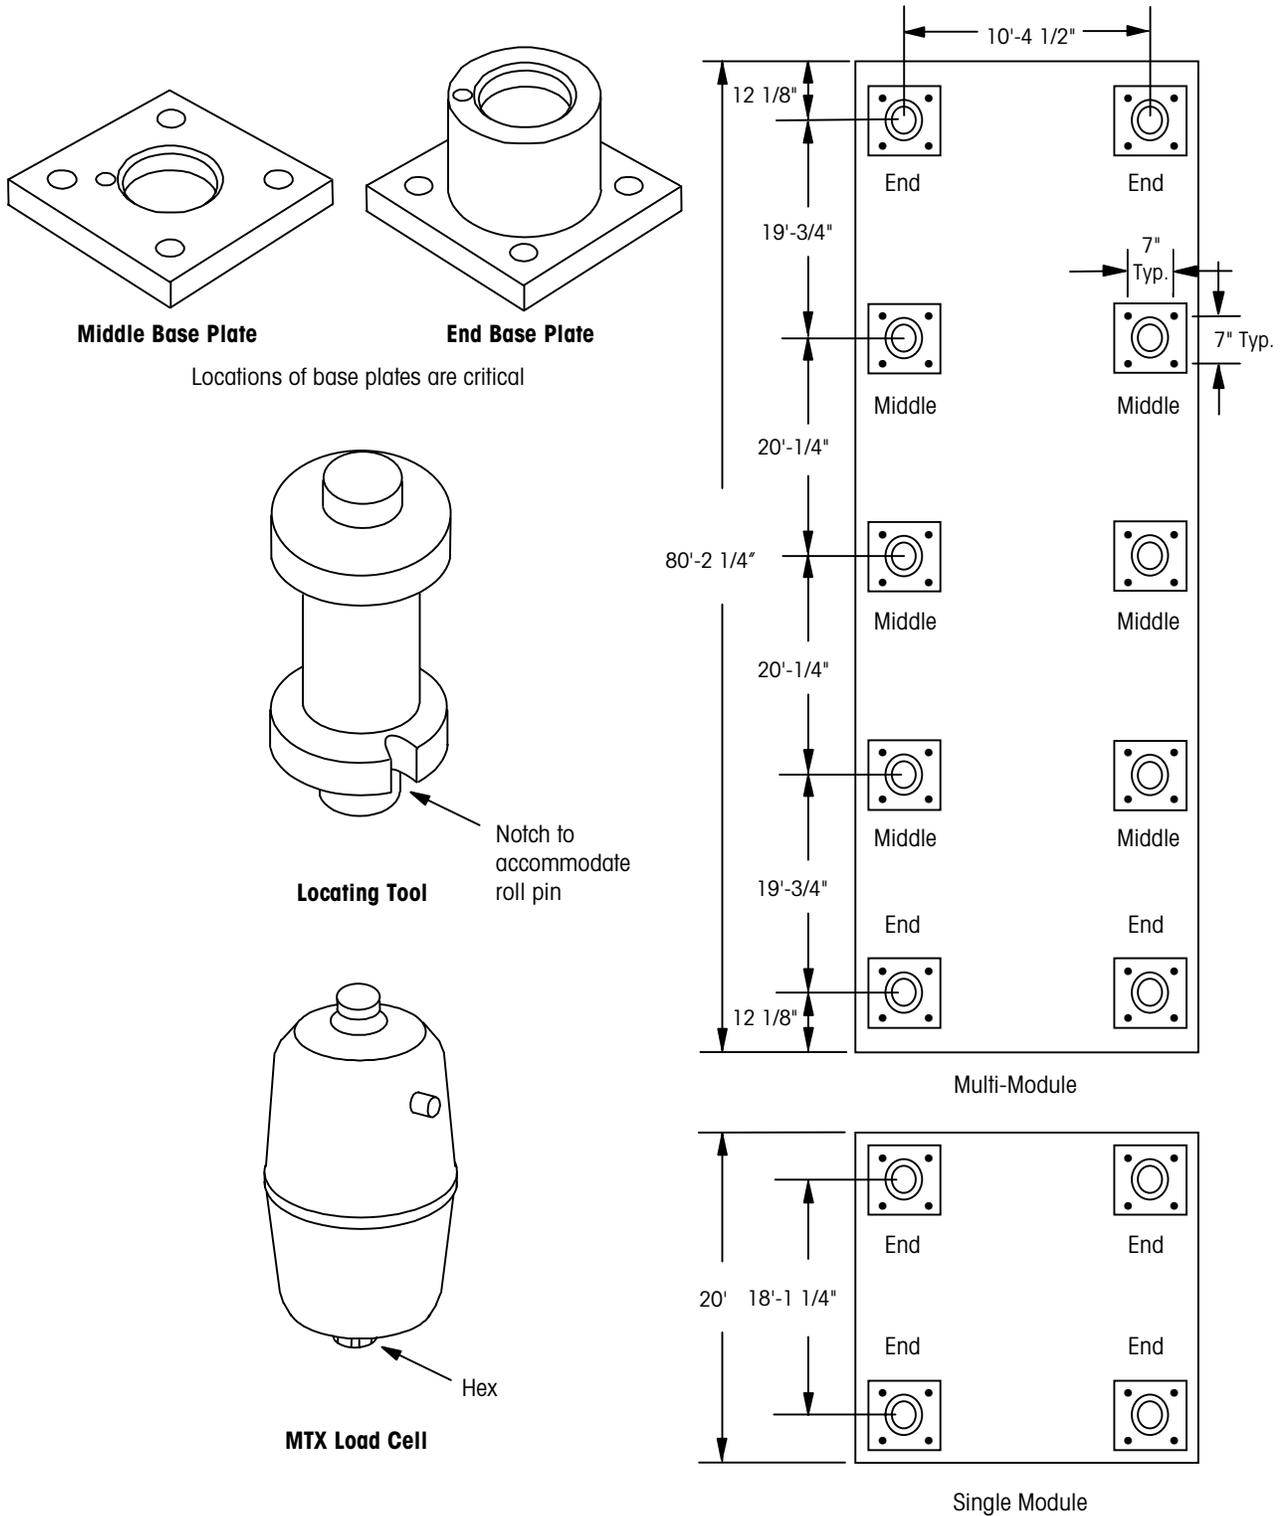

Figure 5-1: Base Plate Locations
2. Position the base plates on the foundation. Figure 5-1 shows the base plate positions for 20'x11'10" modules in single and multiple configurations. For the actual dimensions of your scale, refer to the foundation drawing.